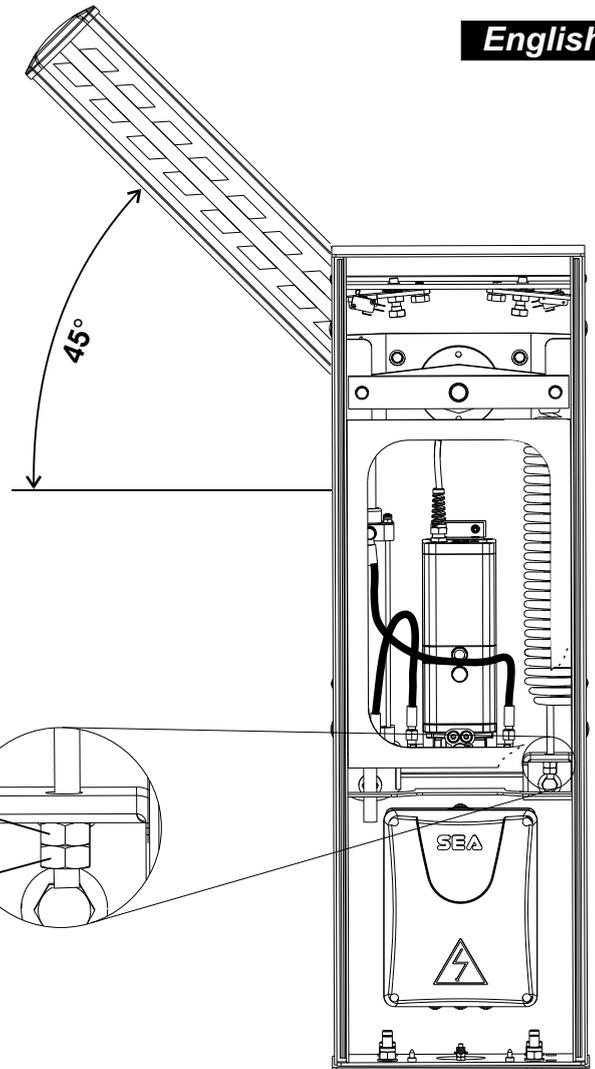

Fig. 13
- Release the beam with manual release, so that it is free to be opened and closed manually (Fig.13).
- Loosen or tighten the spring stretching nut until the spring counterbalances the weight of the 45° beam (Fig. 13). The best balancing position is obtained when the beam reaches the position shown in Fig. 13.